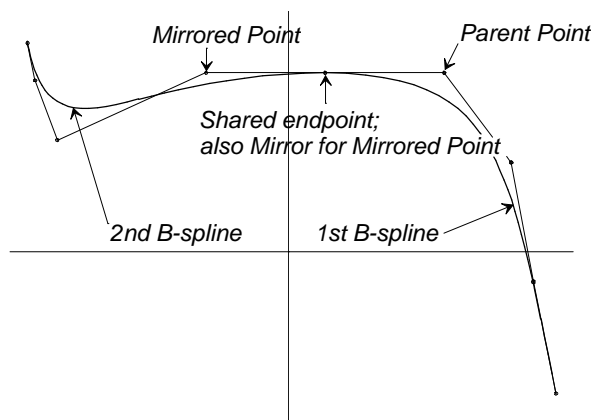

Fig. 2
- Two B-spline Curves that share an end point and where the next-to-end point of the second of the B-splines is the Mirrored Point of the next-to-end point of the first mirrored across the shared end point (Fig. 2). See also Tangency and Mirrored Points in the Building Tangency with B-splines tutorial.